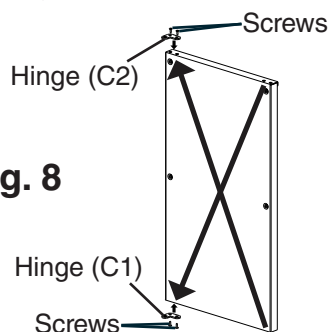

Fig. 8
f) Remove hinge (C1) from the top right part of the door, flip it and reattach to the bottom left. Remove hinge (C2) from the bottom right part of the door, flip it and reattach to the top left. See Fig. 8. Proceed to step 7.